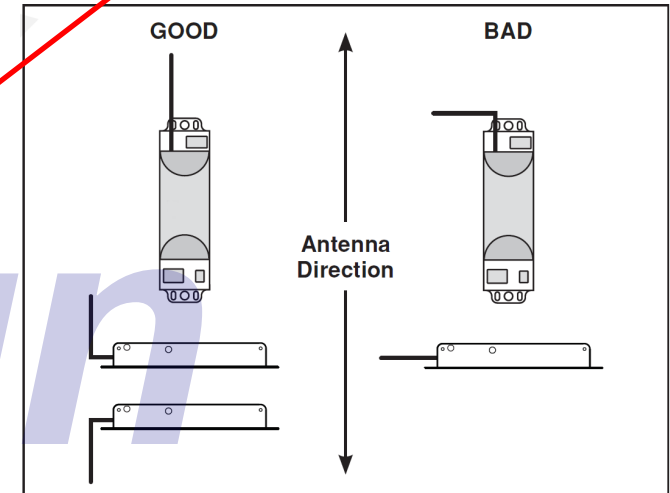

Figure 1 - Antenna Orientation
Option A. For standard installation: place the AIM-121 in the desired location and secure it using (4) #8 screws. Prior to permanently mounting it, make sure the antenna points directly upward or downward and is free of any metal objects within 12 in. of the antenna (Figure 1).
Note: When installing the AIM-121 into an enclosure, consideration of antenna position and interference is required to provide the optimum wireless signal strength. (Figure 1)